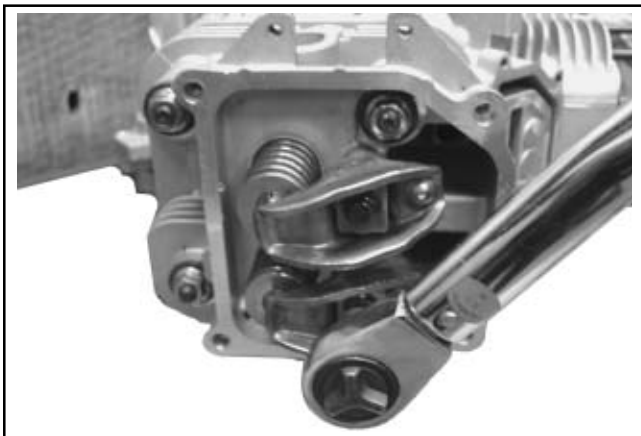

Figure 11-42. Torquing Rocker Arm Screws.
3. Torque the hex. flange screws to **11.3 N·m (100 in. lb.)**. See Figure 11-42.